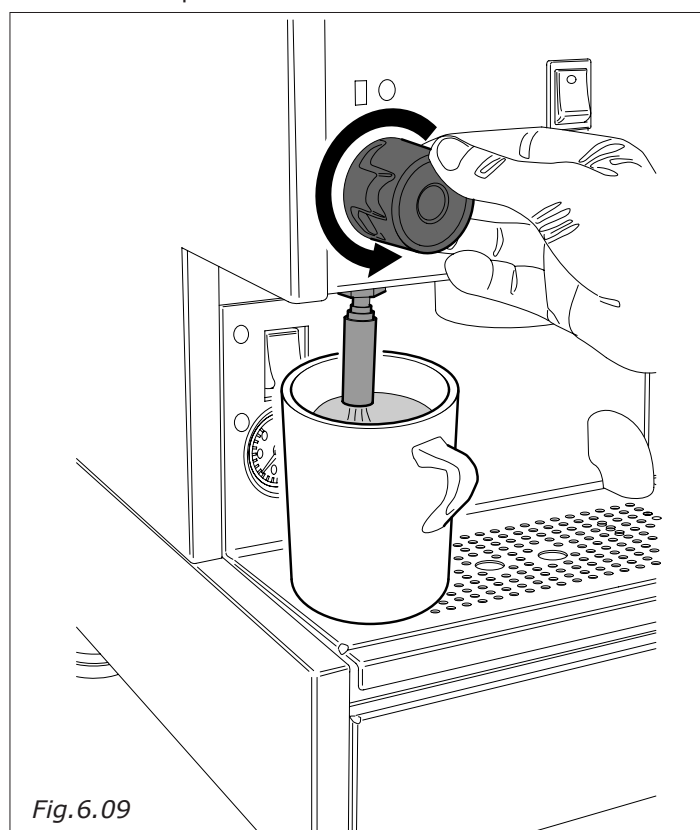

Fig.6.09
- Slowly rotate the tap knob (Fig.6.09) anticlockwise to dispense the hot water.
- After obtaining the desired quantity, take the tap knob back (Fig.6.09) to the initial position by rotating it clockwise.